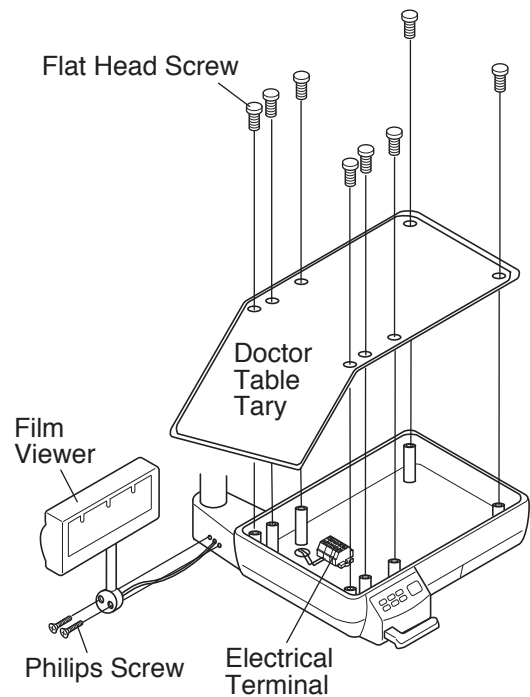

Fig.2-18 Attach Film Viewer
6. ATTACH FILM VIEWER (Fig.2-18 &2-19)